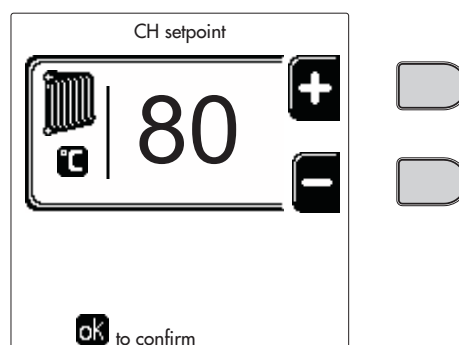
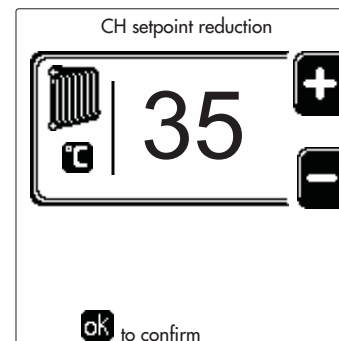
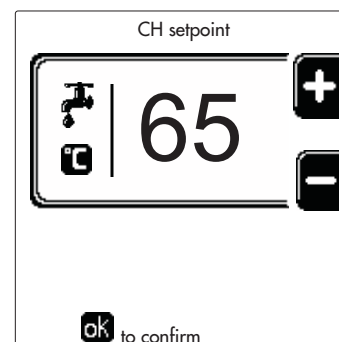
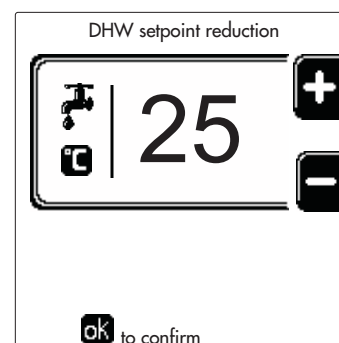

fig. 13
fig. 14
fig. 15
fig. 16
- **ON**. In case of a Heating/DHW request, the boiler works at the set Heating/DHW Adjustment Temperature (fig. 13/fig. 15).
- In case of a Heating/DHW request, the boiler works at the Reduced Adjustment Temperature. The Reduced temperature is obtained by subtracting the Reduction Adjustment Temperature (fig. 14/fig. 16) value from the set Heating/DHW Adjustment Temperature (fig. 13/fig. 15).